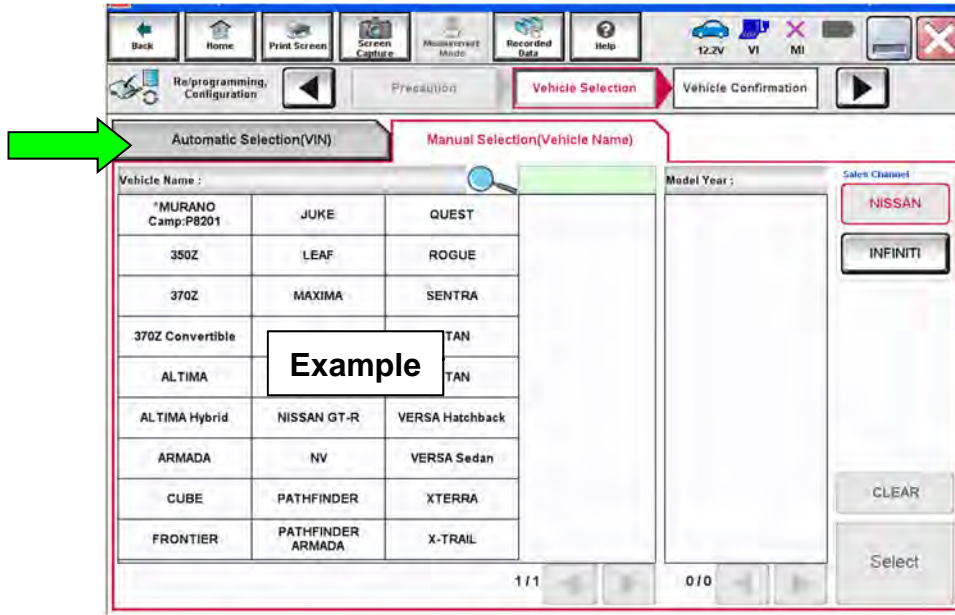

Figure 233
220. If the screen in Figure 233 displays, select **Automatic Selection(VIN)**.
- If the screen in Figure 233 does not display, continue to step 221.